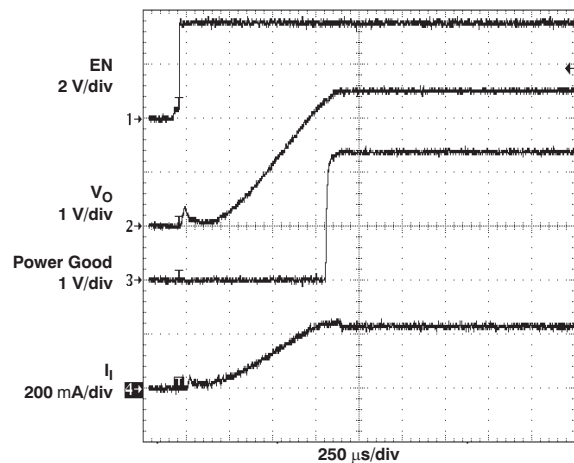

Figure 12. Start-Up vs Time
As the enable pin (EN) goes high, the soft-start function generates an internal voltage ramp. This causes the start-up current to slowly rise preventing output voltage overshoot and high inrush currents. The soft-start duration is typical 1 ms (see Figure 12). When the soft-start function is completed, the error amplifier is connected directly to the internal voltage reference.